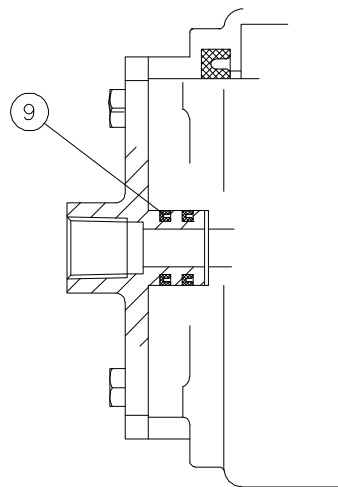

Figure 4
- 4.2.5 Install new "J" Cups (9) onto the cover boss. See Figure 4 for proper orientation.